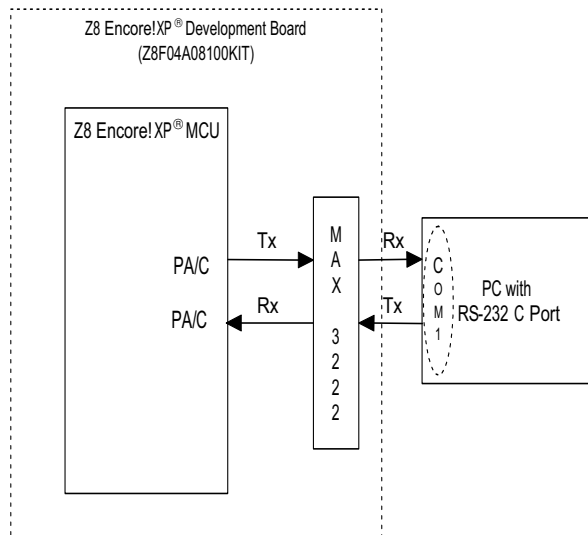
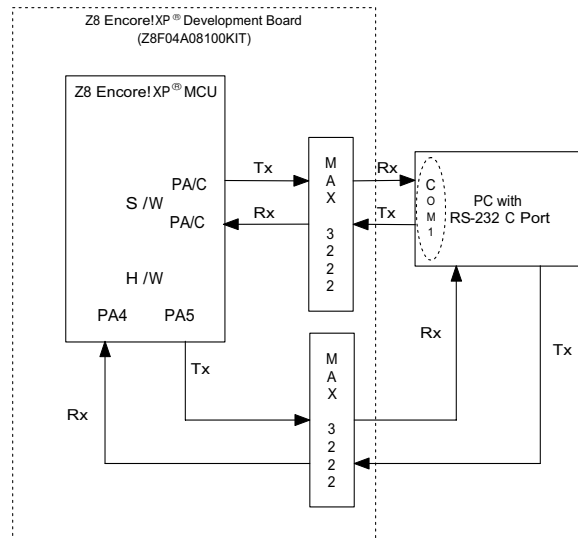
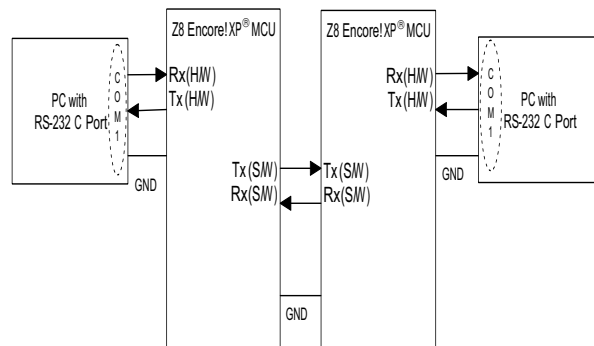

Figure 4. Communication between PC and Z8 Encore! XP on Software UART-Software Tx/Rx shorted with Hardware Tx/Rx
Figure 5. Communication between PC and Z8 Encore! XP® on Software UART as well as Hardware UART
Figure 6. Communication between PC and Z8 on Software UART - Software Tx/Rx shorted with Hardware Tx/Rx
The software UART test setup for Z8 Encore XP! is displayed in Figure 4, Figure 5, and Figure 6.
1. Connect the software-configured Port A/C pin (Tx) to PA5 (Tx hardware pin). Connect the software-configured Port A/C pin (Rx) to PA4 (Rx hardware pin). The available serial driver MAX 3222 on the Z8 Encore! XP Development Board, described in Figure 4, is used for testing purposes.